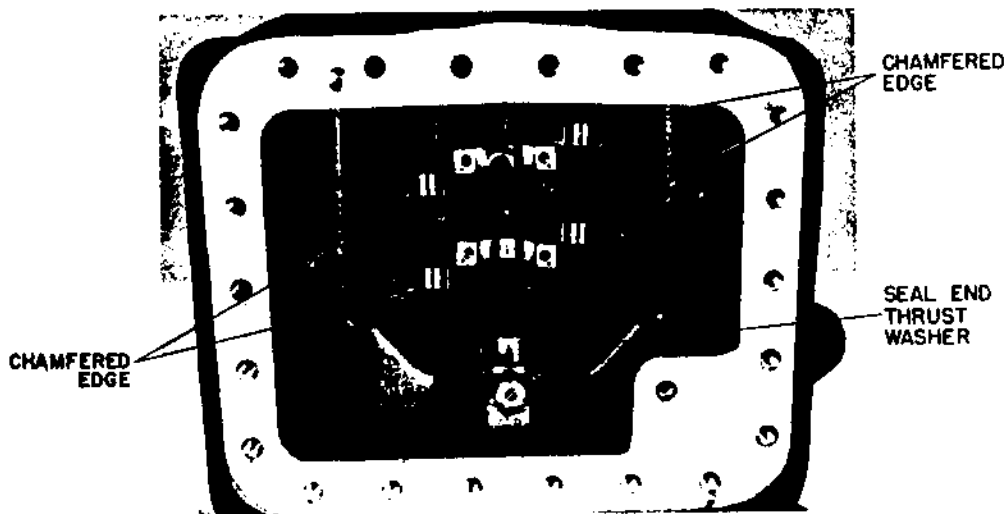

Figure 3-15. Installing Piston Rod Assemblies and Seal End Thrust Washer
b. Install the piston and rod assemblies up through the bottom of the crankcase and into the cylinders. Allow pistons to extend beyond the top of the cylinder to enable installation of piston rings. Pistons should be installed so that the chamfer, on the connecting rod, faces toward the crankshaft journals. Center rods on each crankshaft throw may be installed in either direction. (See figure 3-15.)
b. Install the seal end thrust washer on the two dowel pins. (See figure 3-15.) Ensure piston rods are pushed out of the way and install the crankshaft.